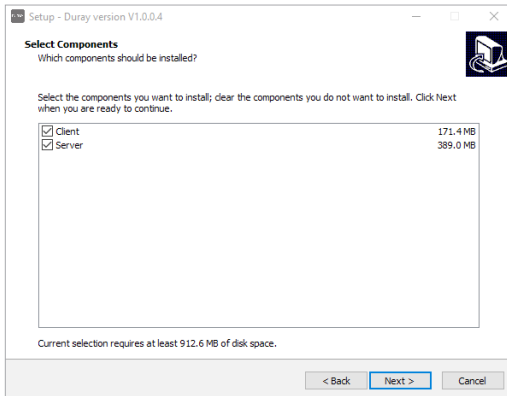

Figure 4
c) Select the component. The user selects the corresponding component as needed, and then click the “Next” button, as shown in Figure 4: